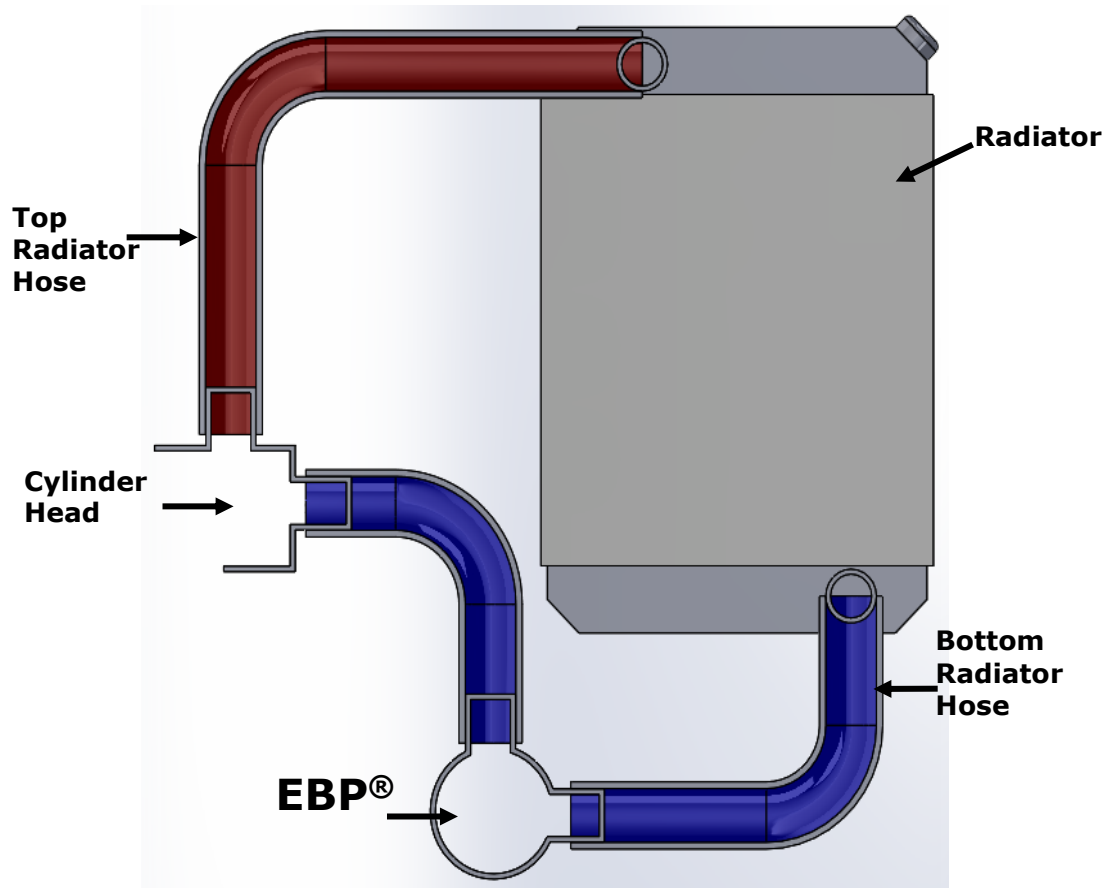

Figure 9: Fitment of the EBP® to replace the Mechanical Water Pump in a Motorcycle application.
1. The EBP® is to be installed in the bottom radiator hose, ensure the EBP® inlet and outlet match the direction of the specific engine coolant flow. The pump inlets and outlets are connected using the hose-clamps provided. Refer Figure 9.